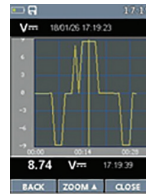

Fig 137
- Press the Button MODE key to Trend record (Fig 137). Press the button ◀ or ▶ key to select previous record measurement or next record measurement. Press the button ESC key to exit view record measurement.